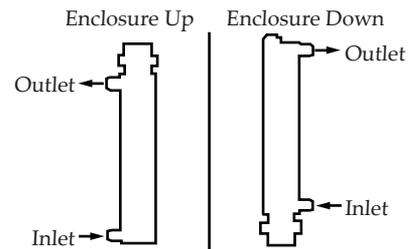

Figure 2
3. DFX heaters MUST be mounted vertically as shown in Figure 2. Regardless of electrical enclosure orientation, **ensure that the lower tube is the flow inlet and the upper tube is the outlet.**